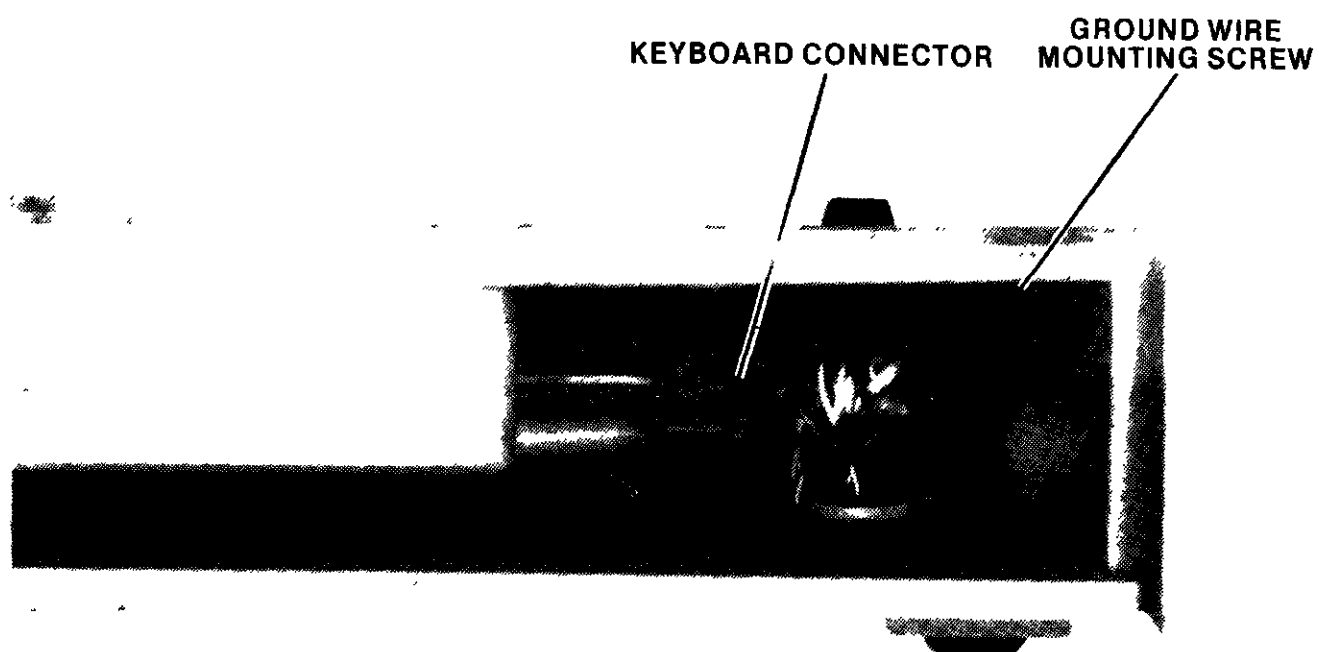

Figure 2-4. Keyboard Cable Connection
5. Refer to figure 2-4 and disconnect keyboard cable at point of connection to keyboard assembly, and then push it firmly back on to ensure proper seating. Make certain that ground wire is attached to mounting screw next to keyboard cable plug. If ground wire is loose, turn keyboard assembly over and remove the two screws holding bottom cover in place. Remove bottom cover, attach ground wire, and replace bottom cover.